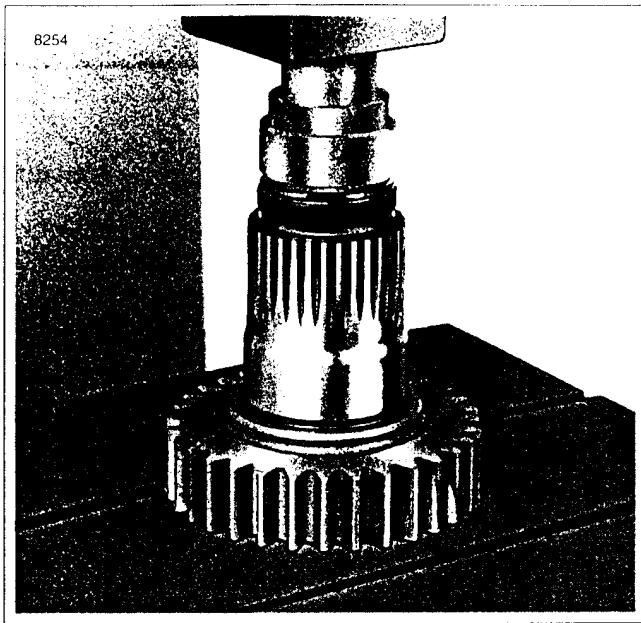

Figure 7-40. Pressing in Seal
10. See Figure 7-40. Turn over tool and press in seal using the 0.090 in. step.